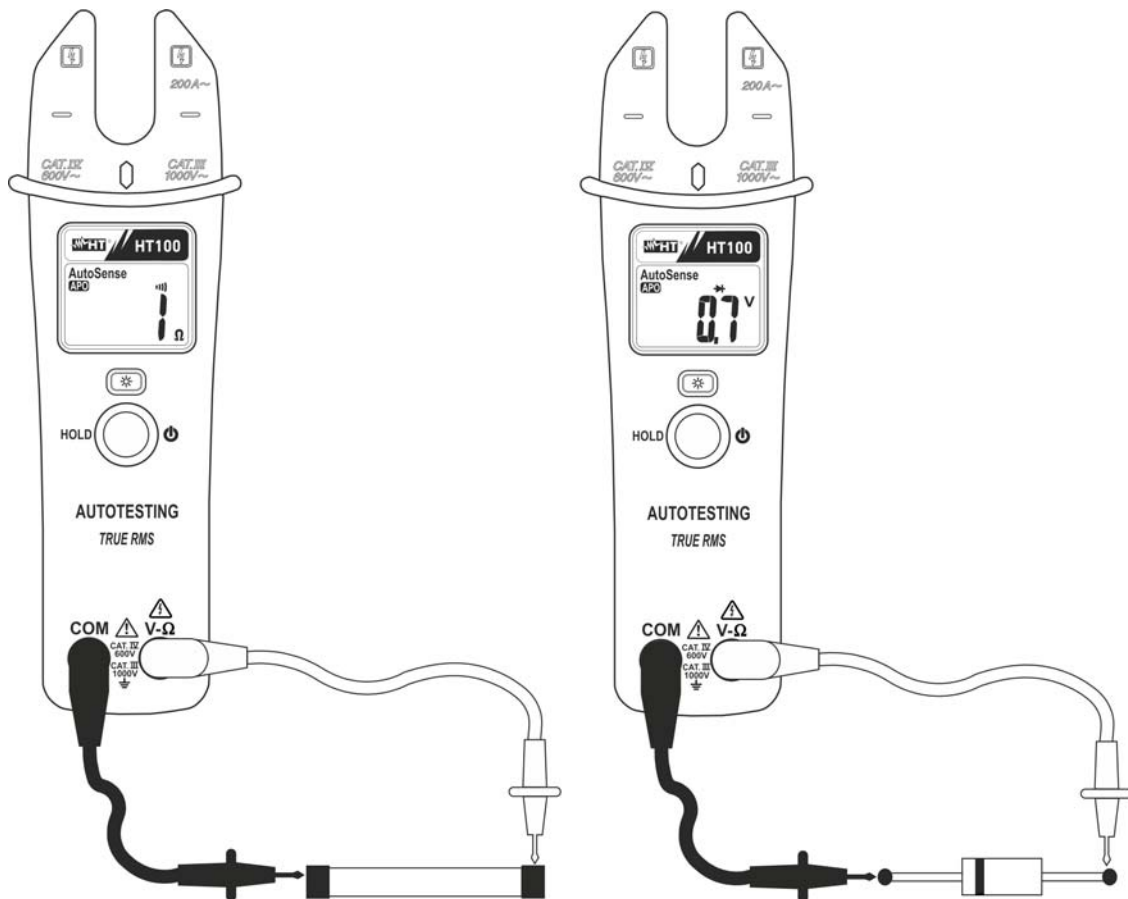

Fig. 6: Taking continuity test and diode test
1. Insert the red test lead plug into **V-Ω** jack and the black test lead plug into **COM** jack and perform continuity test on the object on test (see Fig. 6 – left side). The “•••” is shown at display. Buzzer emits sound if the measured resistance value is less about  $25\Omega$
3. Connect the red test leads to the anode of diode on test and the black test lead on the cathode ones (see Fig. 6 – right side). The “→|+” symbol is shown at display. The correspondent threshold voltage of P-N junction is showed on display